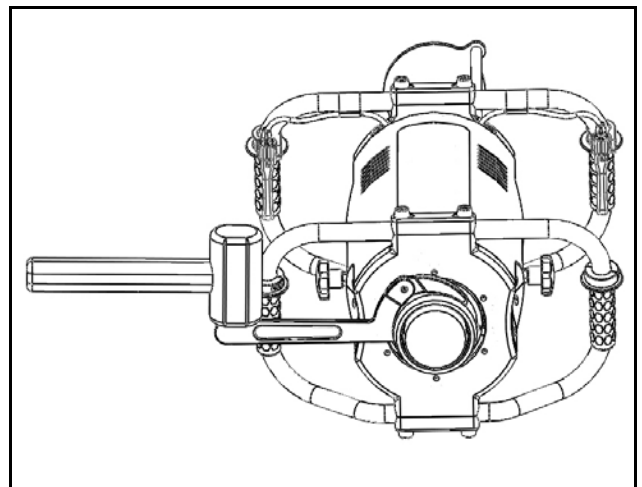

Figure 5 – Impactor Assembly Retaining Nut
4. Using the spanner wrench, unscrew the Impactor Assembly Retaining Nut (see Figure 5). A light tap from the dead-blow hammer on the spanner wrench may be necessary to disengage the nut.